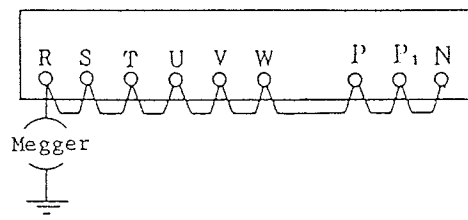

Figure 19 Terminal Connection for Insulation and Withstand Voltage Tests
Measure the resistance between a terminal and the ground with a 500 VDC megger as shown in Figure 19. Confirm that the inverter withstands 5 M Ω or more.
Apply 1500 VAC between a terminal and the ground for one minute as shown in Figure 19. Confirm that there is no abnormality.
* Do not use the terminals not shown in Figure 19 for withstand voltage test.